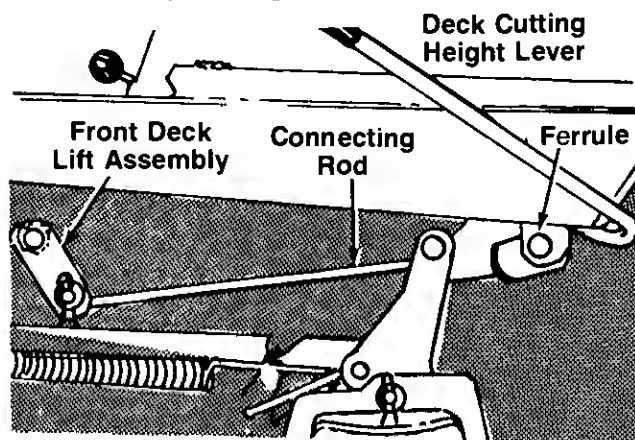

FIGURE 25A.—Model 13504
2. Remove the hairpin cotter and flat washer which hold the deck lift connecting rod to the front deck lift assembly. See figure 25A.
3. Remove the connecting rod from the deck lift assembly and thread it in or out of the ferrule as necessary. See figure 25A. Replace the rod.